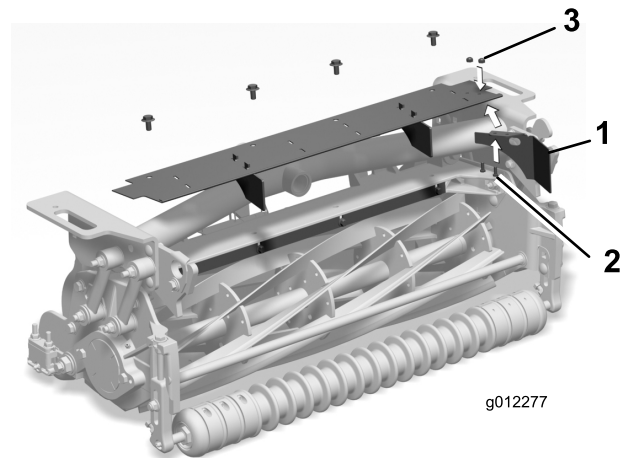

Figure 10
2. Mount the new deflector to the left end of the shield with 2 screws (10-24 x 1/2 inch) and nuts (10-24) as shown in Figure 10.